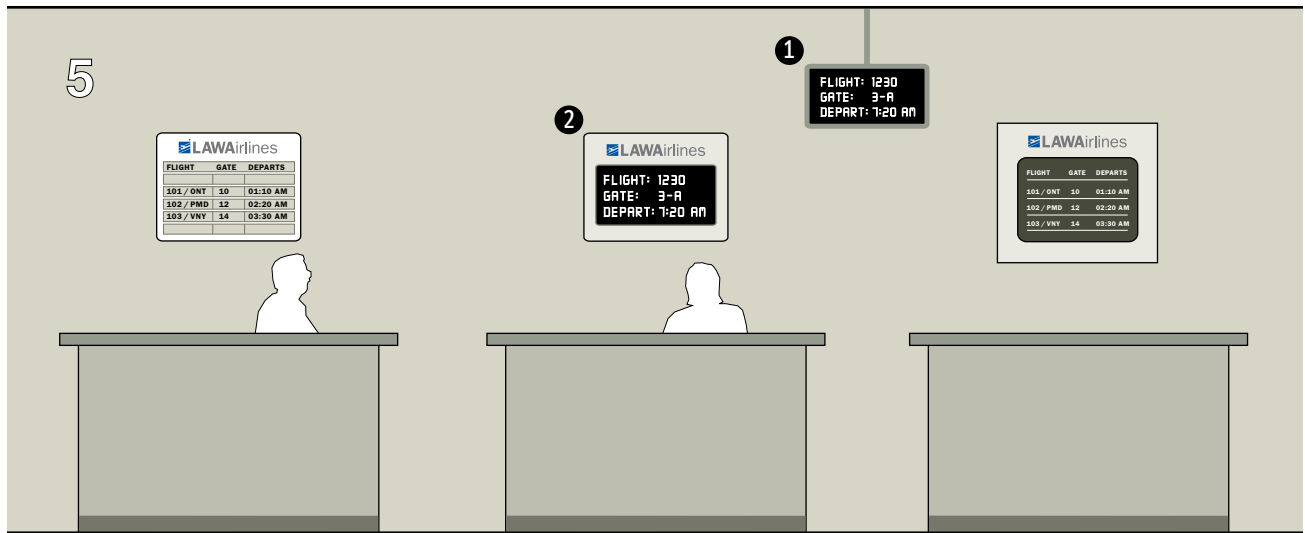

Figure 3h: Types of flight informational signs in the boarding area include static panels with changeable message strips and electronic display monitors.
- ❶ Determined by the monitor size.
- ❷ The total sign size will not exceed 75% of the total frontage length of the counter.
❶❷ See Figure 3h.